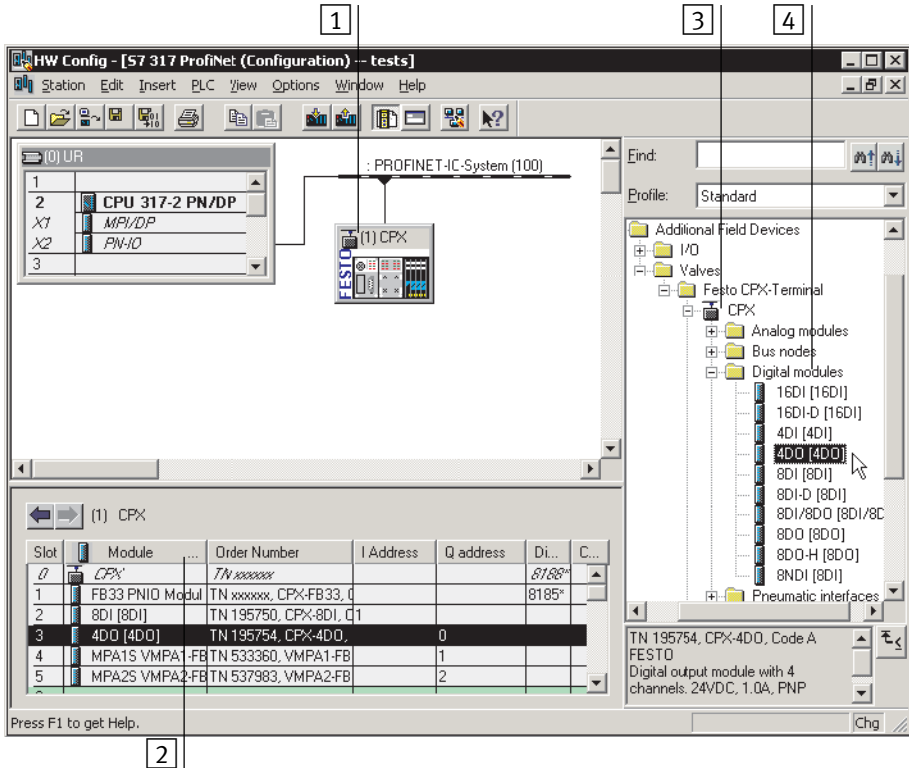

Fig. 2/11: CPX terminal configuration with Siemens STEP 7 – HW Config
4. Click on the symbol of the CPX terminal to be configured in the PROFINET Hardware Configuration (HW Config, 1 in Fig. 2/11).
The configuration table (2 in Fig. 2/11) is displayed (below the schematic representation of the PROFINET-I/O system). If necessary, increase the size of this area of the HW Config window.
5. In the hardware catalogue, open the station symbol (3) corresponding to your application and the related field device groups (“Bus node and module folder”, 4 in Fig. 2/11).